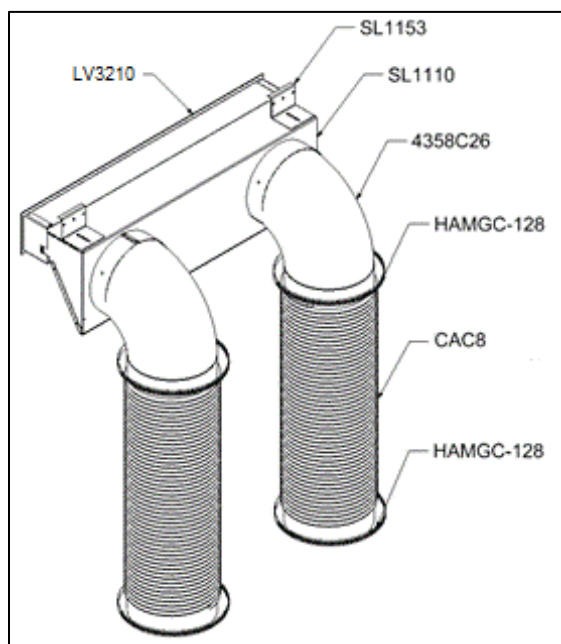
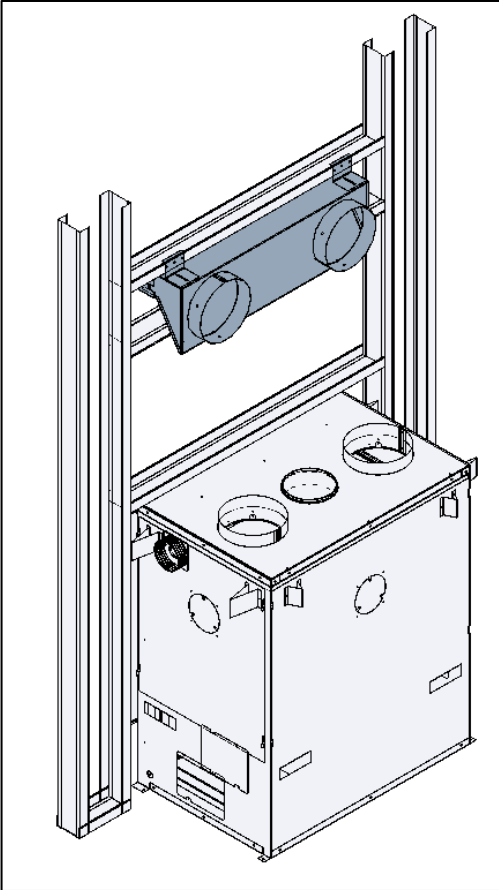
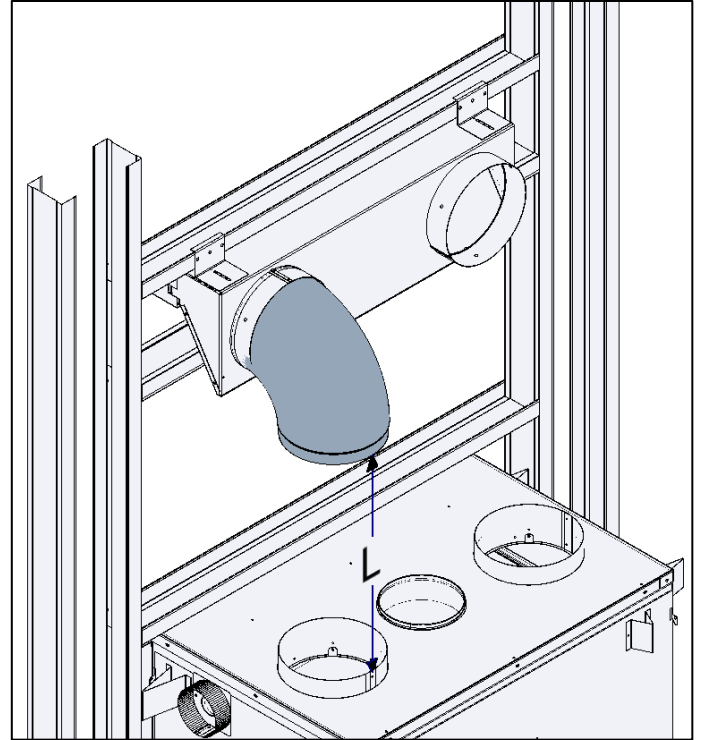
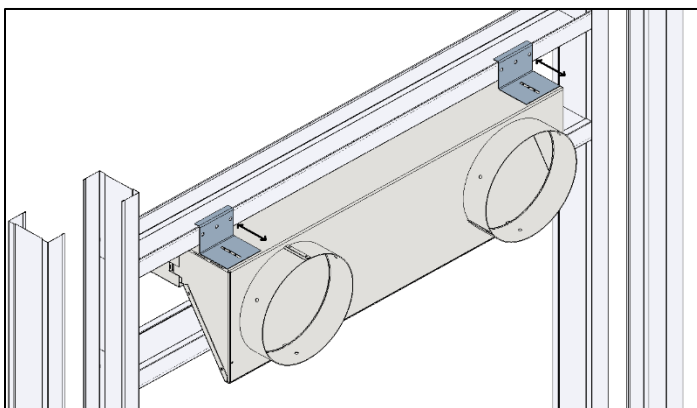

Figure 3-23: LV32 Assembly Diagram
Figure 3-24: Linear Duct/Louver Adapter Installation
Figure 3-26: Elbow Temporarily Installed on Linear Duct/Louver Adapter
Figure 3-25: Adjustable Brackets of Linear Duct/Louver Adapter
The clean face surround comprises no louvers; however, an intake into the chase and outtake through gravity ducts is required for this surround configuration. The instructions below describe the installation of the intake openings and the single linear front gravity ducts/outtakes. Please note that the SUPREME LV32 kit is required for the Gravity Kit installation with a single linear front louver (Figure 3-23).
1. Install the linear duct/louver adapter (item SL1110 of Figure 3-23 and Table 3-5) onto the framing of the single linear front louver (Figure 3-24). The brackets of the SL1110 (SL1153 of Figure 3-23) are adjustable to accommodate different wall finishing materials (Figure 3-25).
2. Temporarily install one of the 90° elbows (4358C26 of Figure 3-23 and Table 3-5) on the linear duct/louver adapter (Figure 3-26) and measure the distance L indicated in Figure 3-27.
4. Add 3 inches to the distance L and cut the two CAC8 ducts (Figure 3-23 and Table 3-5) to that length.